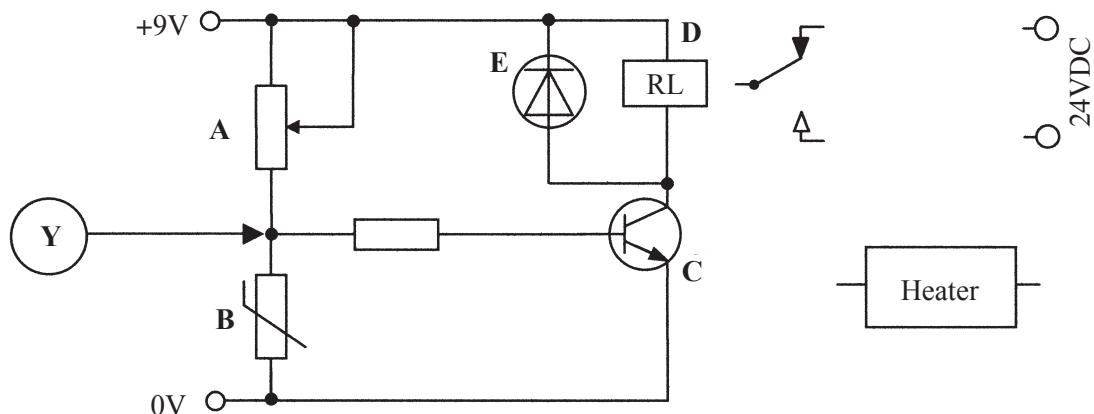

Figure 7
- (b) Some testing was carried out using the circuit shown in **Figure 7**.
(c) With reference to **Figure 7**.